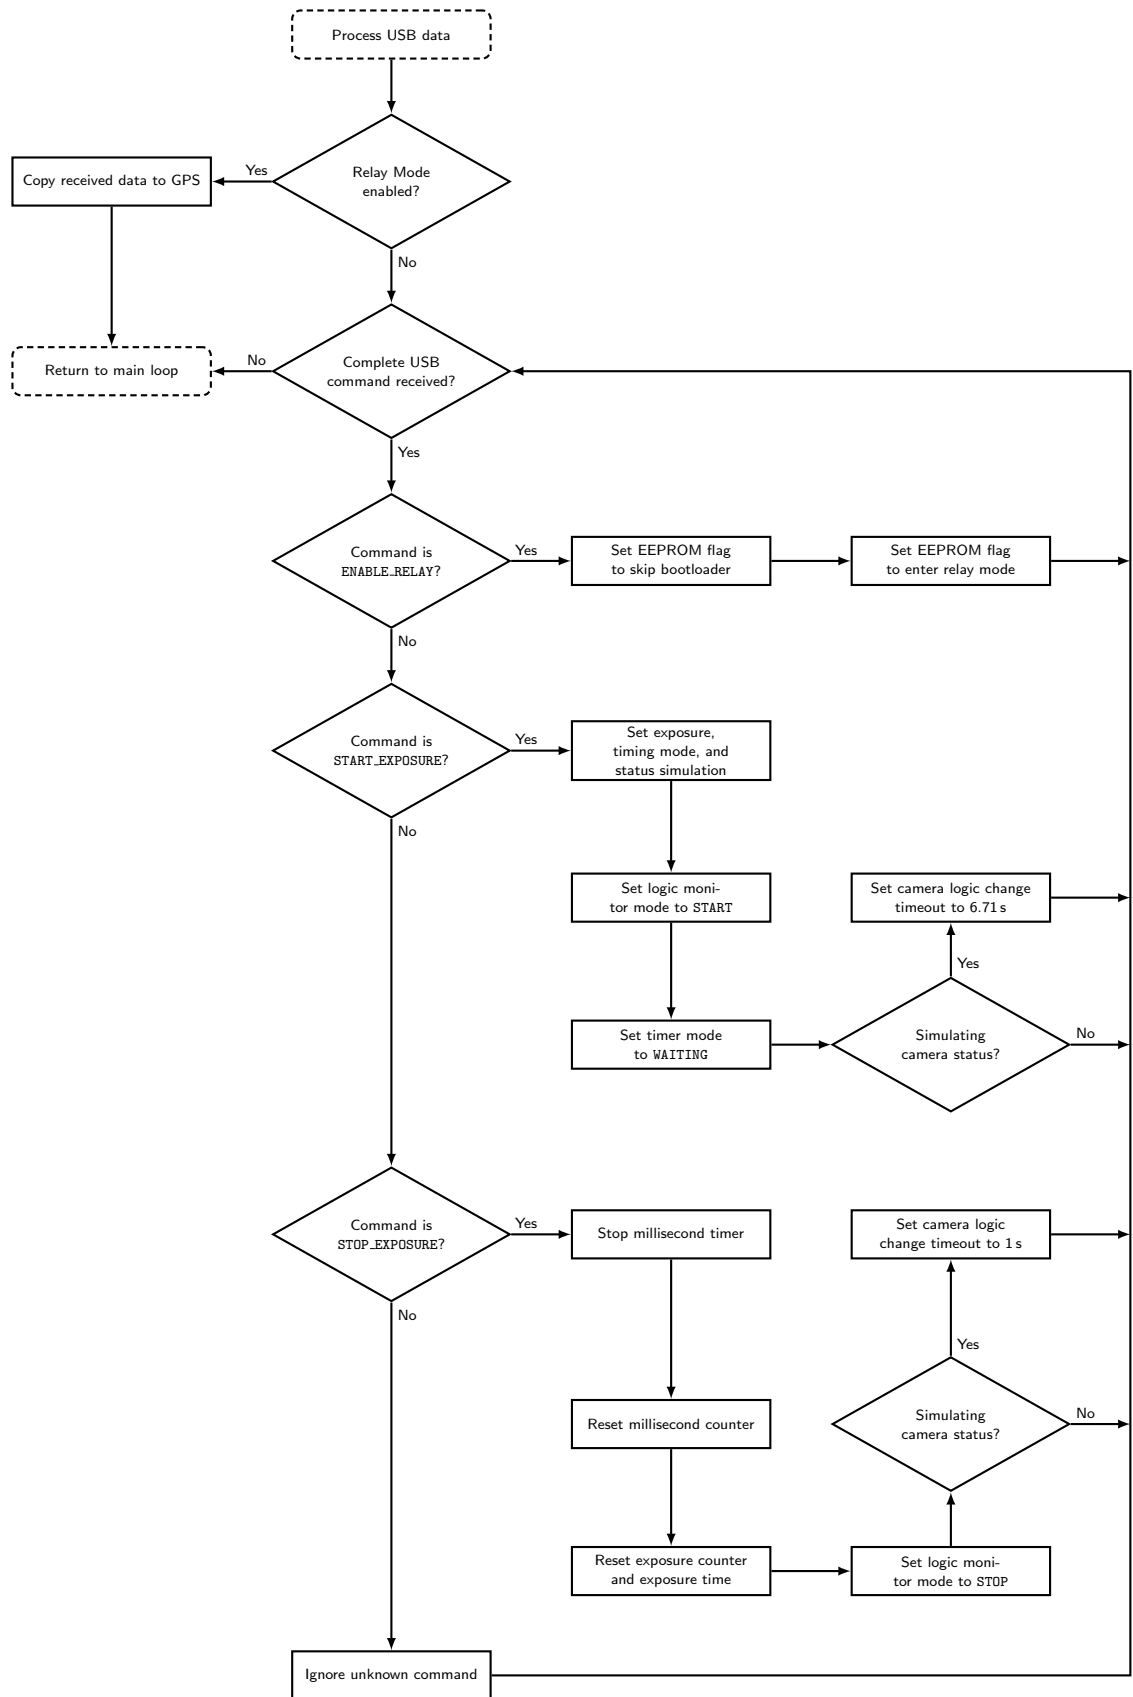

Figure A.2: Expanded detail of the USB command processing logic.
- USB commands are processed (Figure A.2).